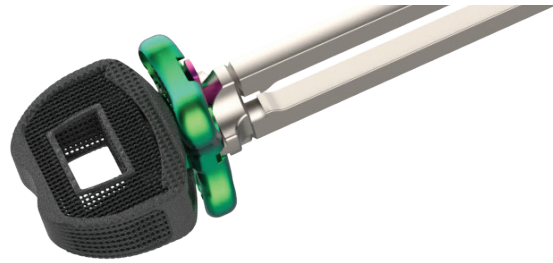

Figure 6
3.2. Plate and Cage Construct Insertion Method (Figure 6) utilizes the Construct Inserter (**Figure 7A**) to deliver the Plate (**Figure 7B**) and NEXXT MATRIX® ALIF (Cage) (**Figure 7C**) simultaneously. The Plate and Cage will not be permanently connected post-operatively.
Note: STRUXXURE®-A may be used as supplemental fixation with an alternative ALIF device, however, Nexxt Spine does not endorse **3.2. Plate and Cage Construct Insertion Method (Figure 6)** with any other ALIF device except NEXXT MATRIX® ALIF.